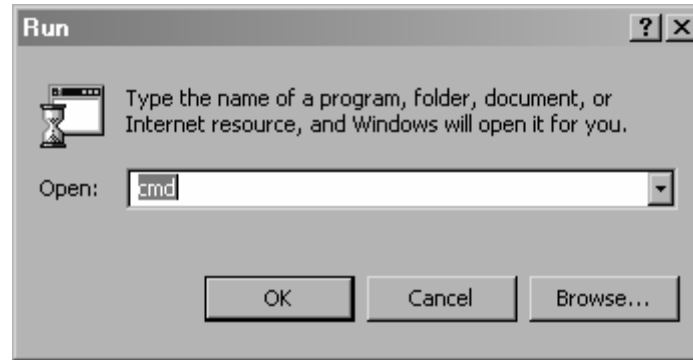

Figure 9-1: Run Window
2. Open a DOS window. This can be accomplished by using the run command under the start button, type "cmd". See Figure 9-1 for more information.